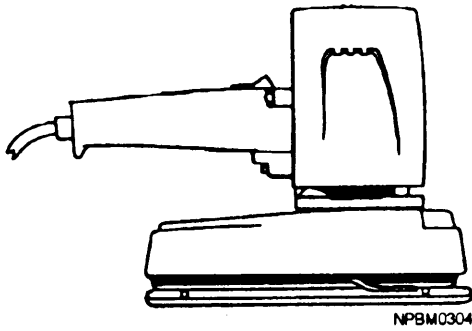

Figure 11-6.—Orbital sander.
- **ORBITAL SANDER.**—The orbital sander (fig. 11-6) is so named because of the action of the sanding pad. The pad moves in a tiny orbit, with a motion that is hardly discernible, so that it actually sands in all directions. This motion is so small and fast that when fine paper is mounted on the pad, it is nearly impossible to see any scratches on the finished surface.